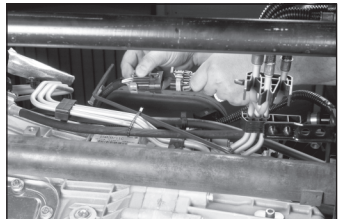

Fig. 18
20. Locate the GM upfitter P.T.O. interface connector, located on the upper left side of the transmission. Connect Chelsea supplied wiring harness (379895) to the interface connector (Fig.18).